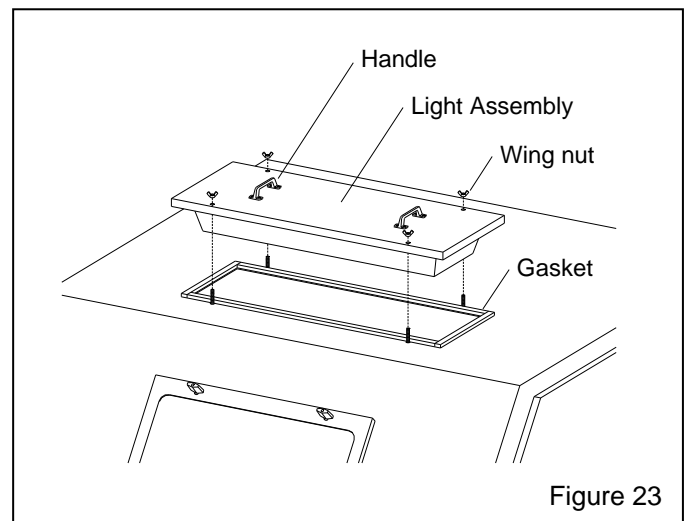

Figure 23
7.7.2.1 Remove the four wing nuts holding the light fixture to the cabinet, and use the handles to lift the fixture off the cabinet, as shown in Figure 23.
7.7.2.3 Lay a section of strip gasket next to the opening, and cut to length, allowing 3/4" overlap on each end. Peel a short section of adhesive backing, and adhere the strip gasket to the top edge of the light opening, as shown in Figure 23. Press the gasket tightly to bond. Repeat the process for each side, compressing the ends to seal.